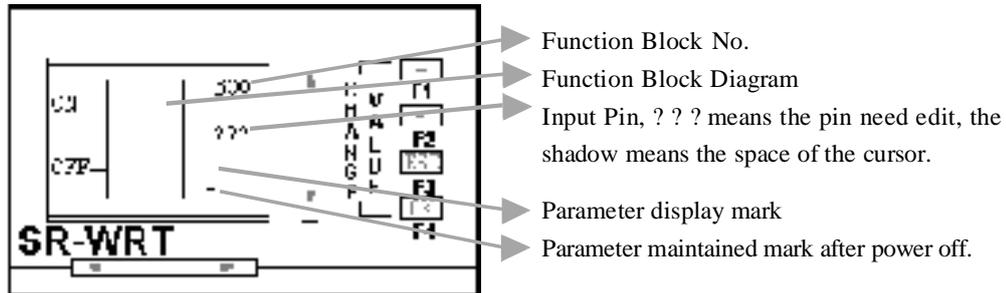

Fig. 10.31 Function Block Edition Interface
1. Select the function. In Fig. 10.7, move “>” before 17 SCHED and press OK to enter Fig. 10.8. Move “>” before YES and press OK key to enter Fig. 10.31, Function Block Edition Interface.
In Fig. 10.31, B00 is the sequence No. of the function block, which is produced automatically in programming and is not able to be edit. The ON of the left side means the space to modify the ON date and the OFF of the left side means the space to modify the OFF date.
In Fig. 10.32, “\_” is the cursor. The space of the cursor can be changed via UP, DOWN, LEFT, RIGHT and the data or module of the cursor can be changed via +, -. In Fig. 10.32, change the YEAR into DAY and change time to 6:30, thus the time of ON is set. Press OK key to return to Fig. 10.31. But at this time the cursor will be “■” and be on the “O” of ON. The input of this point can be selected via +, -. If “-” is selected, which means this point is not used. If this point is needed, select “On” and press “OK” key, change cursor to “\_”. Then select and edit other points.
6. Return to Fig. 10.7, Function Block Selection interface. The edit of function block B00 is finished via the above steps. Press ESC, all the points are edit correctly and return to Fig. 10.7. Otherwise the wrong points will be displayed in Fig. 10.31 as “? ??”. And the cursor will be in the first “?” as the form of “■” and wait for the edition. And the mistakes at this space include the following three points:
Select and Edit B01: Via the above procedure, select function block 17SCHD. Through the confirmation in Fig. 10.8, it will enter Fig. 10.31, function block edition interface. But the B00 is changed into B01, which means the function block edited is the second
In Fig. 10.34, Step Sequence Output Edit Interface, “\_” is the cursor. The step sequence can be edit via UP, DOWN, and the space of the step sequence can be edit via LEFT, RIGHT. Notes: Q cannot be selected. Only XX can be selected and edited. Change the data of the cursor via +, -. Change QXX to the output we needed. In edition procedure, please be attention the following notes. 1. When editing the step sequence, the output of the above step sequence cannot be as QXX. It must be on detailed output. If we want to edit Out 4 =QA3, then the output port of Out1, Out2, Out3 cannot be QXX. They must be the detailed output, for example, Out1=QA0, Out2=QA1, Out3=QA2 and so on. 2. To be convenient to the user, we design the menu as circle menu. For example, in Fig. 10.31, if the cursor in the second line of the WRT (caused by the first action prompt). The symbol of the above step sequence is Out1. Now Out8 is needed to be edited. Pressing DOWN eight times is too trouble. Directly press UP key one time. The cursor will be on Out8 directly and user can edit.